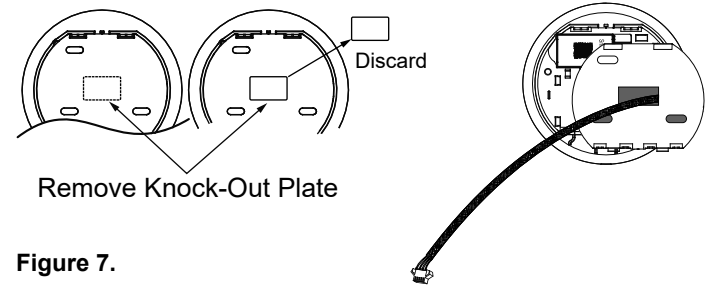

Figure 7.
4. For rear exit of Backing Plate, remove and discard the perforated rectangle Knock-Out Plate as shown in Figure 7.